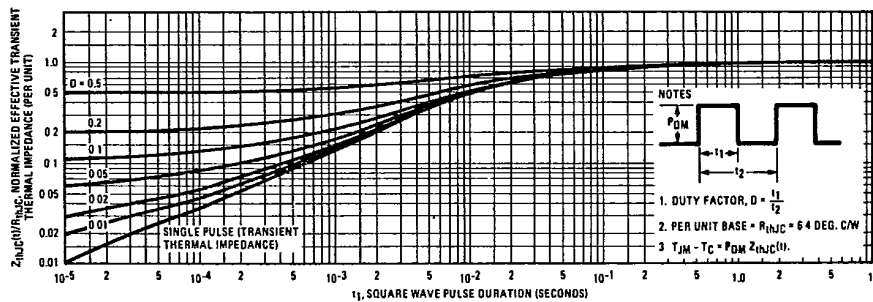

Fig. 5 - Maximum Effective Transient Thermal Impedance, Junction-to-Case Vs. Pulse Duration
① T_J = 25°C to 150°C. ② Pulse Test: Pulse width < 300μs, Duty Cycle < 2%. ③ Repetitive Rating: Pulse width limited by max. junction temperature. See Transient Thermal Impedance Curve (Fig. 5).